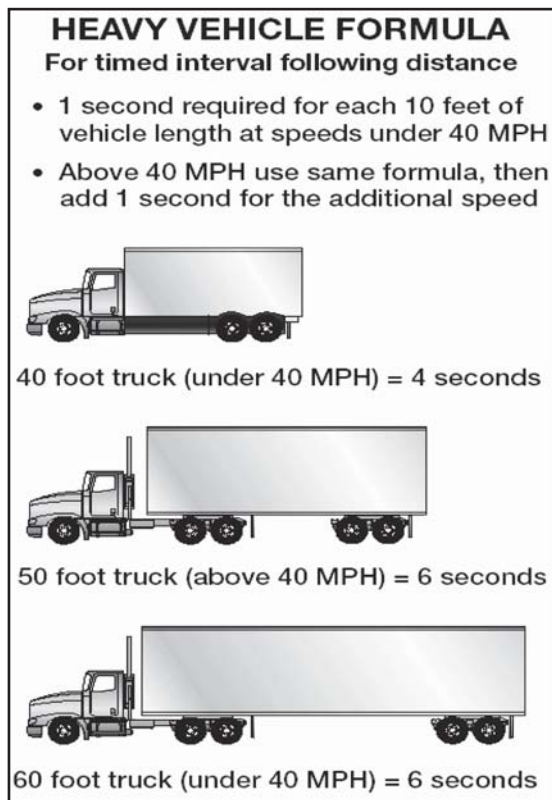

Figure 2.12
**How Much Space?** — How much space should you keep in front of you? One good rule says you need at least one second for each 10 feet of vehicle length at speeds below 40 mph. At greater speeds, you must add one second for safety. For example, if you are driving a 40-foot vehicle, you should leave four seconds between you and the vehicle ahead. In a 60-foot rig, you will need six seconds. Over 40 mph, you would need five seconds for a 40-foot vehicle and seven seconds for a 60-foot vehicle. (See Figure 2.12.)